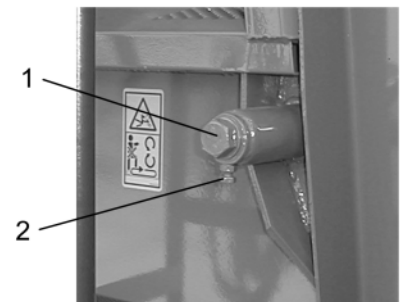

Fig. 15
7.1 Transport floor chain tightening device (Fig. 15)
2. Completely loosen the locking screws 2 and clamp bolts 1 (see fig. 15).
Fig.15 a